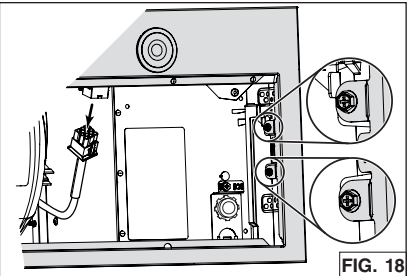

FIG. 18
6. Unplug the blower cable from its connector on faceplate. Disassemble the faceplate from the unit by removing its 4 retaining screws (two per side, circled in FIG. 18). Set aside the faceplate along with its screws.